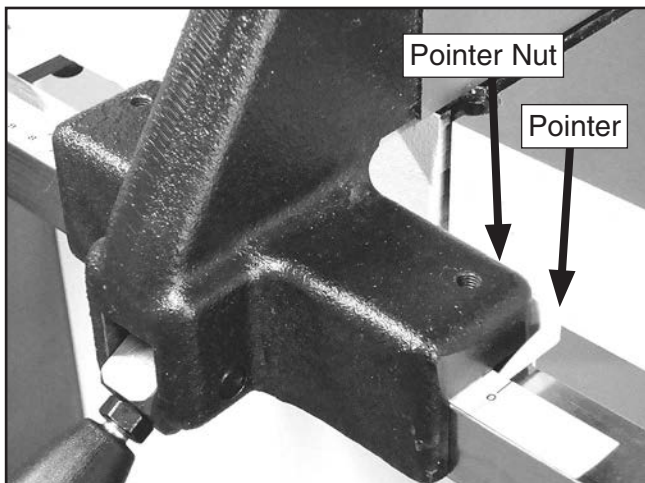

Figure 31. Calibrating fence pointer (adjustment nut out of view).
22. Loosen pointer adjustment nut (see **Figure 31**) and set pointer in line with "0" on measurement scale on rail.